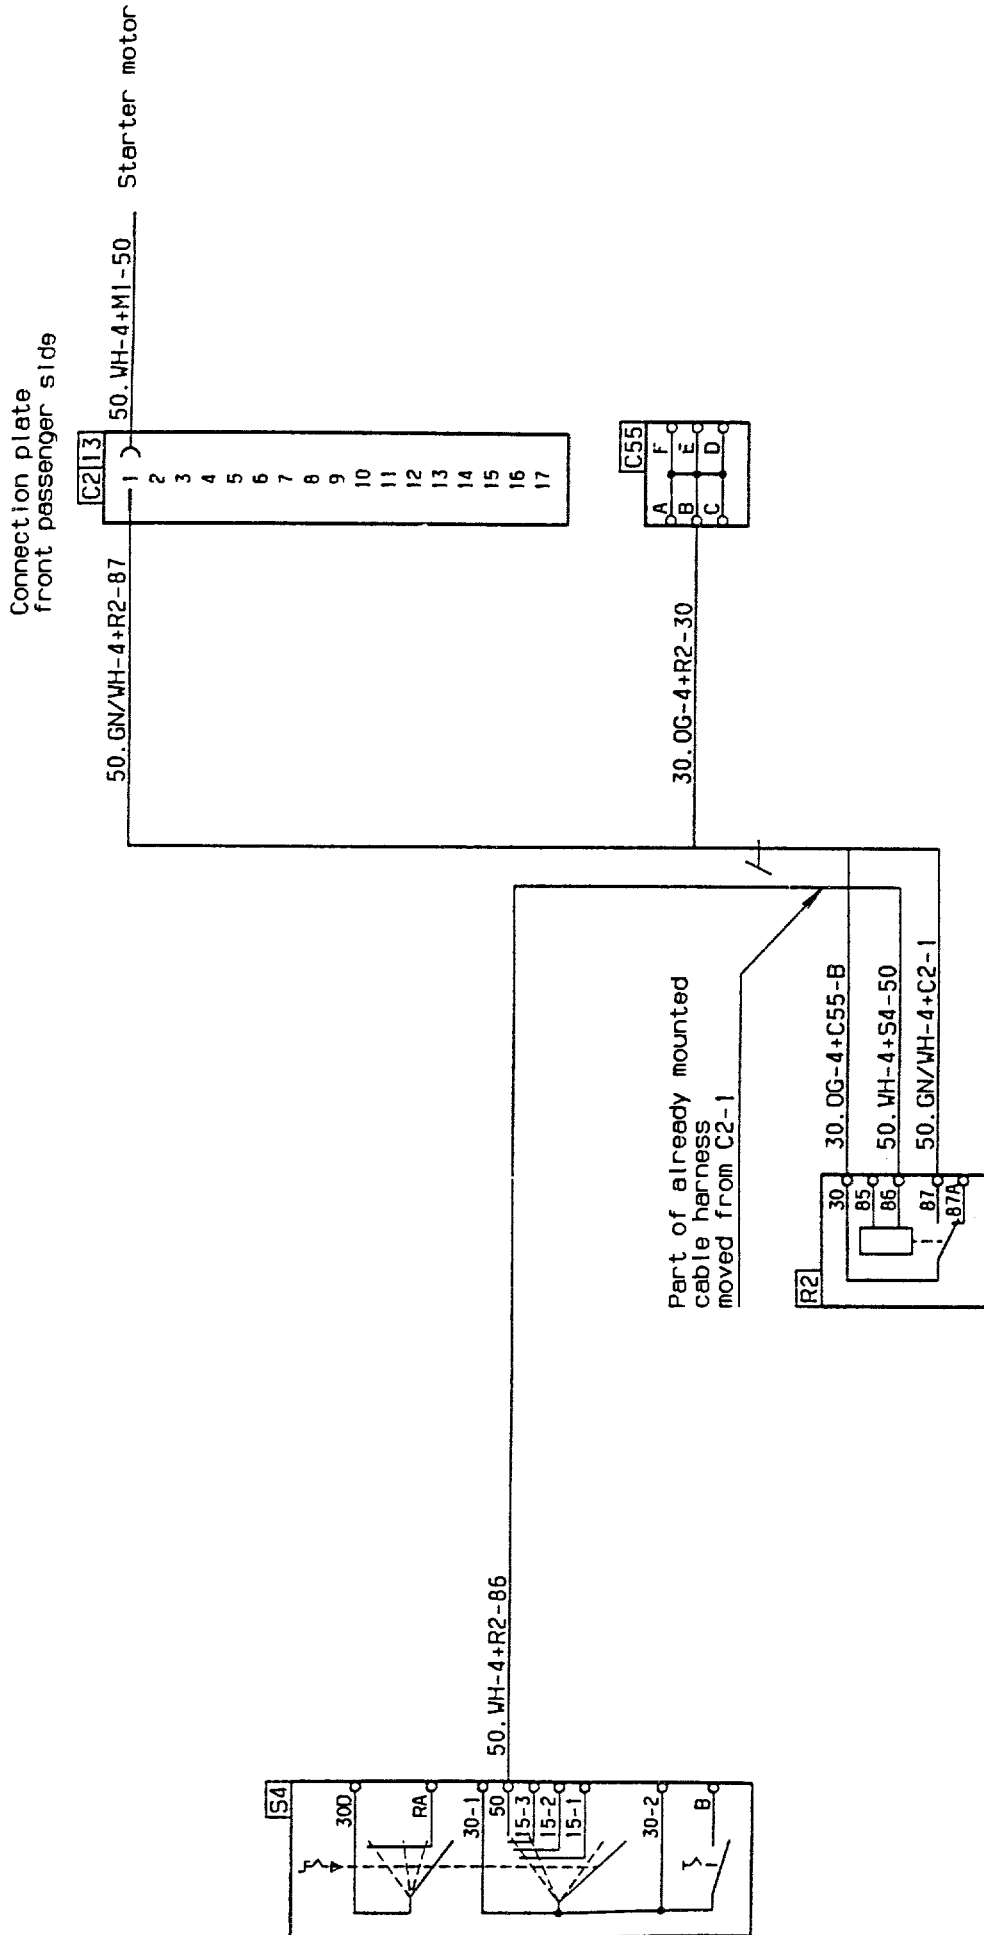

Fig. 2
5. Fit and connect the new wiring (see fig. 2).